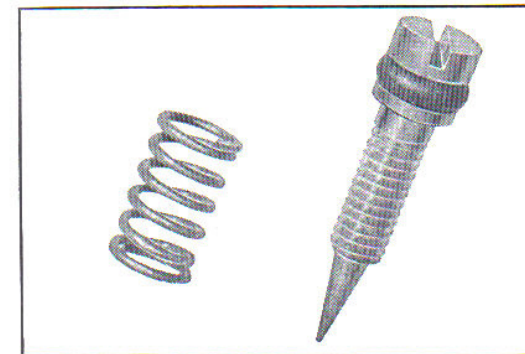

Fig. 3.129 Pilot screw
Flow value of fuel which passed through the main jet is controlled at slow jet through pilot jet, and simultaneously, the fuel is mixed with air from the slow air jet at the air bleed of slow jet. The mixture jets from the pilot outlet (12) and bypass (13) near the periphery of the throttle valve. (Fig. 3.125) On the pilot outlet (12), the pilot screw which regulates the mixture is provided. (Fig. 3.129)
The engine rpm at idling point is between 1000~1200 rpm. (Fig. 3.129)